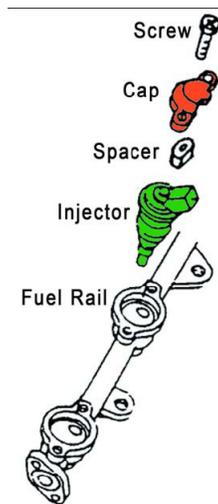

Fig. 1: Subaru
3. Remove the fuel injector cap(s), being very careful not to misplace the rubber spacer(s) fitted between the cap(s) and the injector(s). The rubber spacer(s) must be reinstalled with the new injector(s). Refer to Fig. 1.